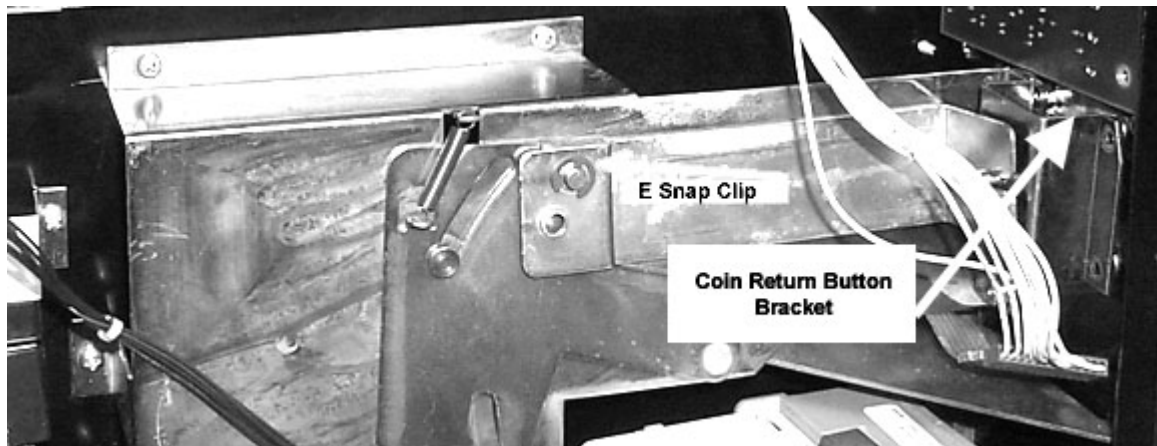

Figure 4
4. Remove the coin return mechanism assembly as follows referring to figure 4: